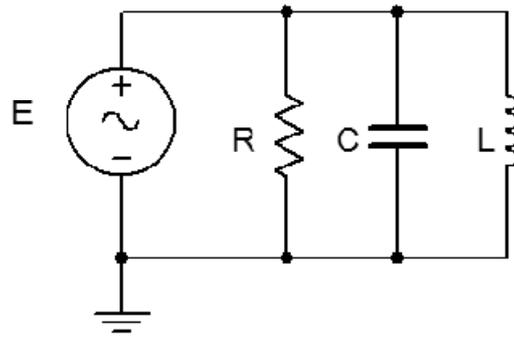

Figure 5.3
9. Using Figure 5.3 with both the 10 nF capacitor and 10 mH inductor (and a third sense resistor), repeat steps 1 through 7 in like manner, using Tables 5.5 and 5.6. Note that it will not be possible to see all four waveforms simultaneously in step 5.